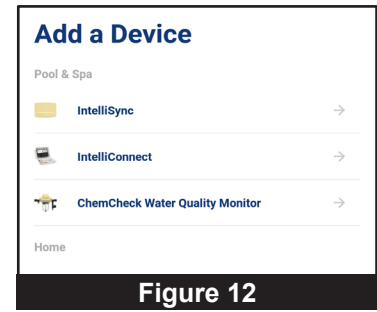

Figure 12
2. The Add a Device screen will display (**Figure 12**). Press INTELLICONNECT.